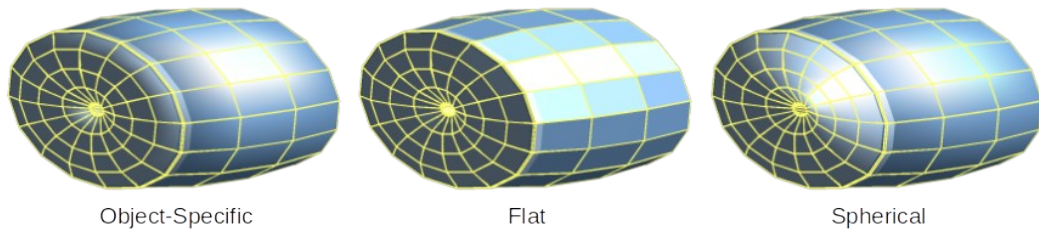
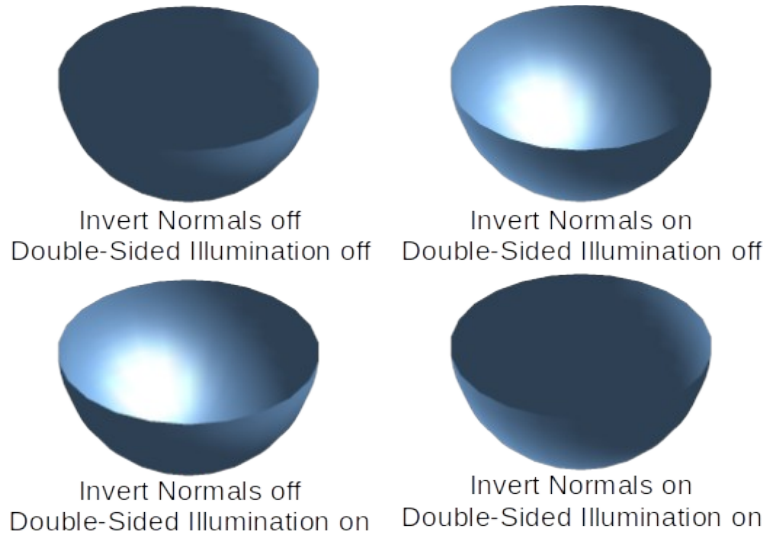

Figure 17: Examples of object specific, flat and spherical effects
Figure 18: Examples of invert normals and double sided illumination
- **Normals** – modifies the rendering style of the 3D surface (Figure 17 and Figure 18).
Figure 18 demonstrates the 3D effect of using *Invert Normals* in conjunction with using the 3D effect *Double-Sided Illumination*.